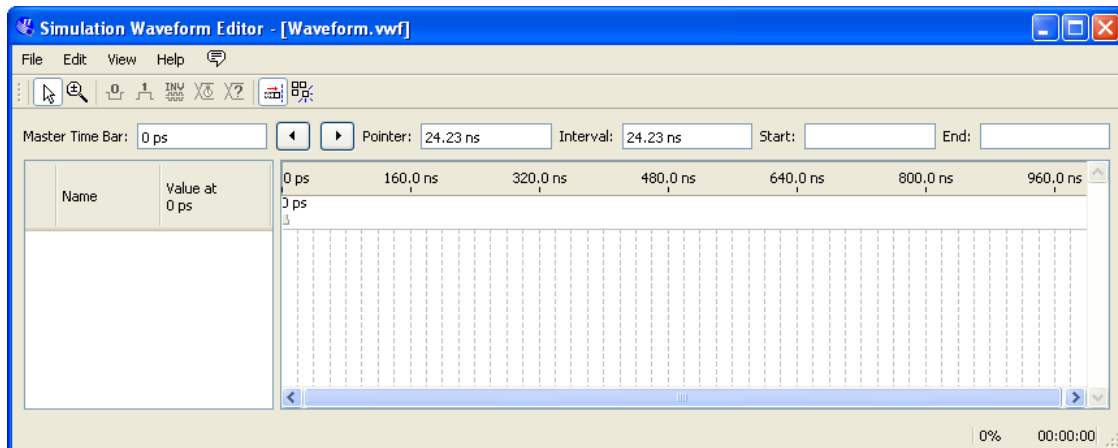
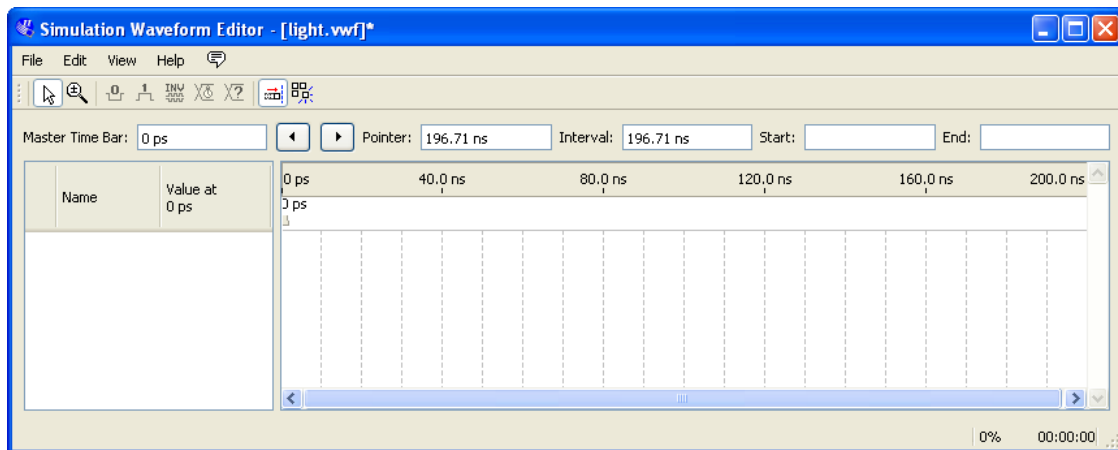

Figure 29. The Waveform Editor window.
Figure 30. The augmented Waveform Editor window.
5. The Waveform Editor window is depicted in Figure 29. Save the file under the name *light.vwf*; note that this changes the name in the displayed window. Set the desired simulation to run from 0 to 200 ns by selecting Edit > Set End Time and entering 200 ns in the dialog box that pops up. Selecting View > Fit in Window displays the entire simulation range of 0 to 200 ns in the window, as shown in Figure 30. You may wish to resize the window to its maximum size.